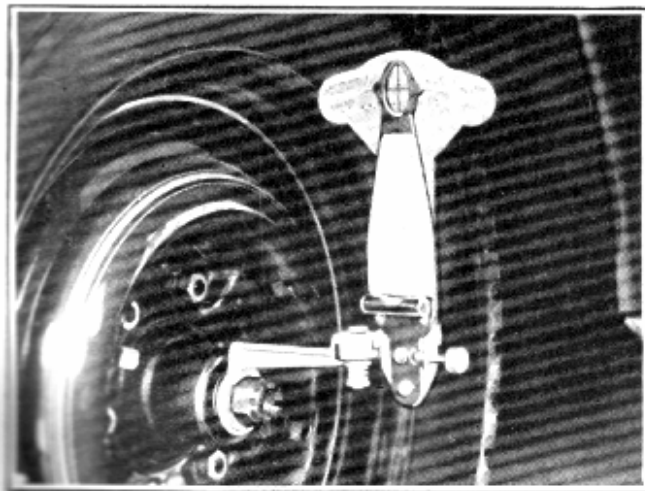

Fig. 40—Checking Camber
1. Set the wheels in a straight ahead position and install the "Jiffy" gauge parallel with the spindle as shown in Fig. 40.